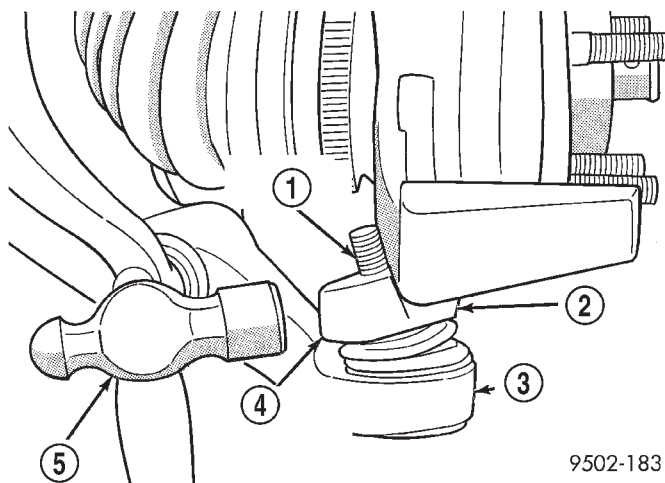

Fig. 35 Separating Ball Joint Stud From Steering Knuckle
(12) Turn steering knuckle so the front of the steering knuckle is facing as far outboard in the wheel well as possible. Using a hammer strike the boss on the steering knuckle, (Fig. 35) until steering knuckle separates from stud of lower ball joint. **When striking steering knuckle, care MUST be taken not to hit lower control arm or ball joint grease seal.**